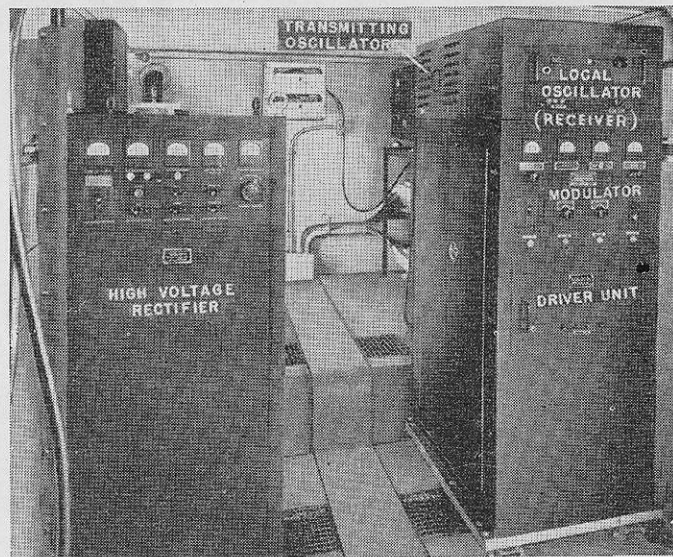
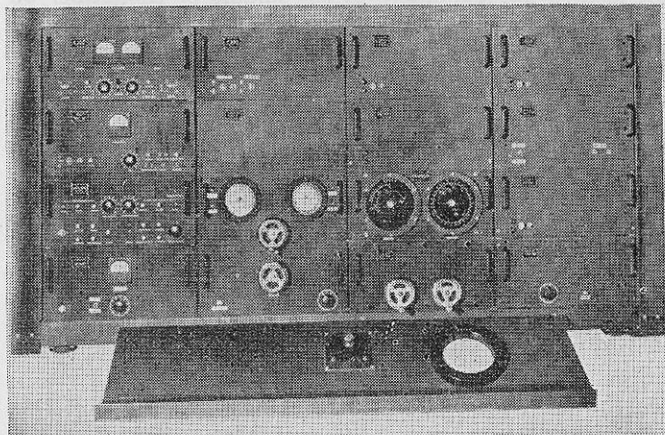

FIGURE 4.—Interior view of trailer looking forward.
FIGURE 8.—Control rack and panel.
g. The control rack which contains the majority of the components of the equipment, including the main operating and indicating controls used by the operators, is located in the rear of the trailer. This rack is shown in figure 8. Forward of the control rack is the high-voltage rectifier (RA-68), located approximately at the middle of the trailer on the left side. To the right of the high-voltage rectifier is the modulator (BC-784), and on top of the modulator is located the local oscillator (BC-1096). Here also are the transmitting oscillator, and the outlet to the blower which cools the oscillator tube. (See fig. 4.)